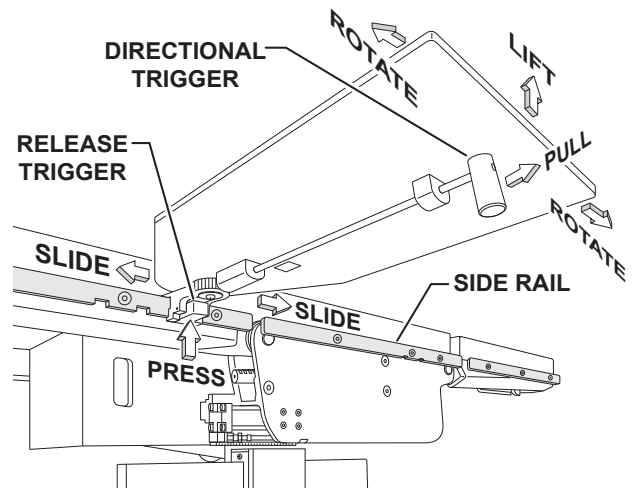

Figure 2. Position the Armboard
1. Gently lift the back edge of the armboard to prevent binding, and slide the armboard to the desired location on the side rail (Figure 2).
1. Rotate the armboard 90 degrees to the side rail (Figure 2).